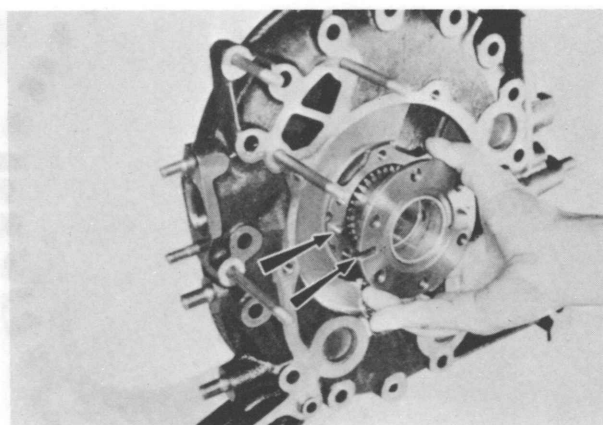

Fig. 1-43 Installing stationary gear
7. Install the stationary gear to the housing, aligning the slot of the stationary gear flange and the dowel pin, as shown in Fig. 1-43.